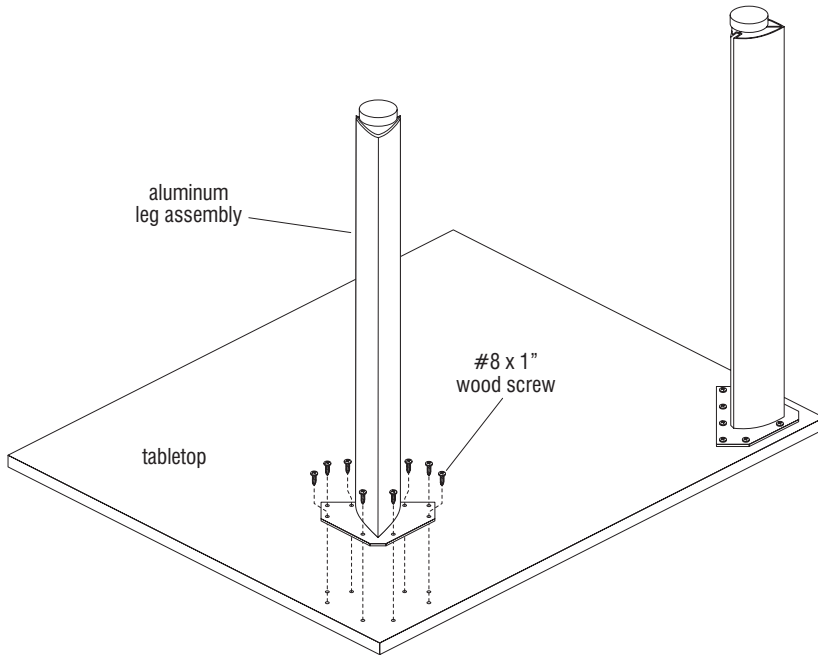

Figure 1
1. Carefully place tabletop upside down onto a soft, protective surface. One at a time, position a leg assembly over pre-drilled holes where it will be installed. Some holes are pre-drilled in the tabletop to aid in locating the leg's mounting position (Figure 1).
2. Secure the aluminum leg assembly to the underside of the tabletop using eight #8 x 1" wood screws as illustrated. Take care when tightening to not strip screws in tabletop underside (Figure 1).